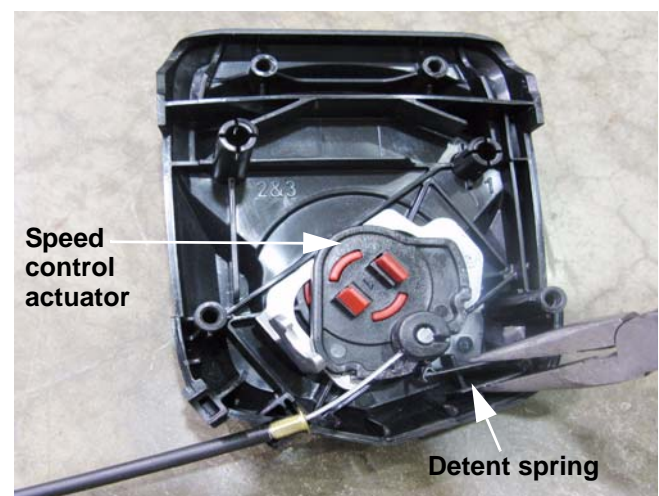

Figure 3.16
12. Use a pair of needle nose pliers to compress and remove the detent spring from the speed control actuator. See Figure 3.16.